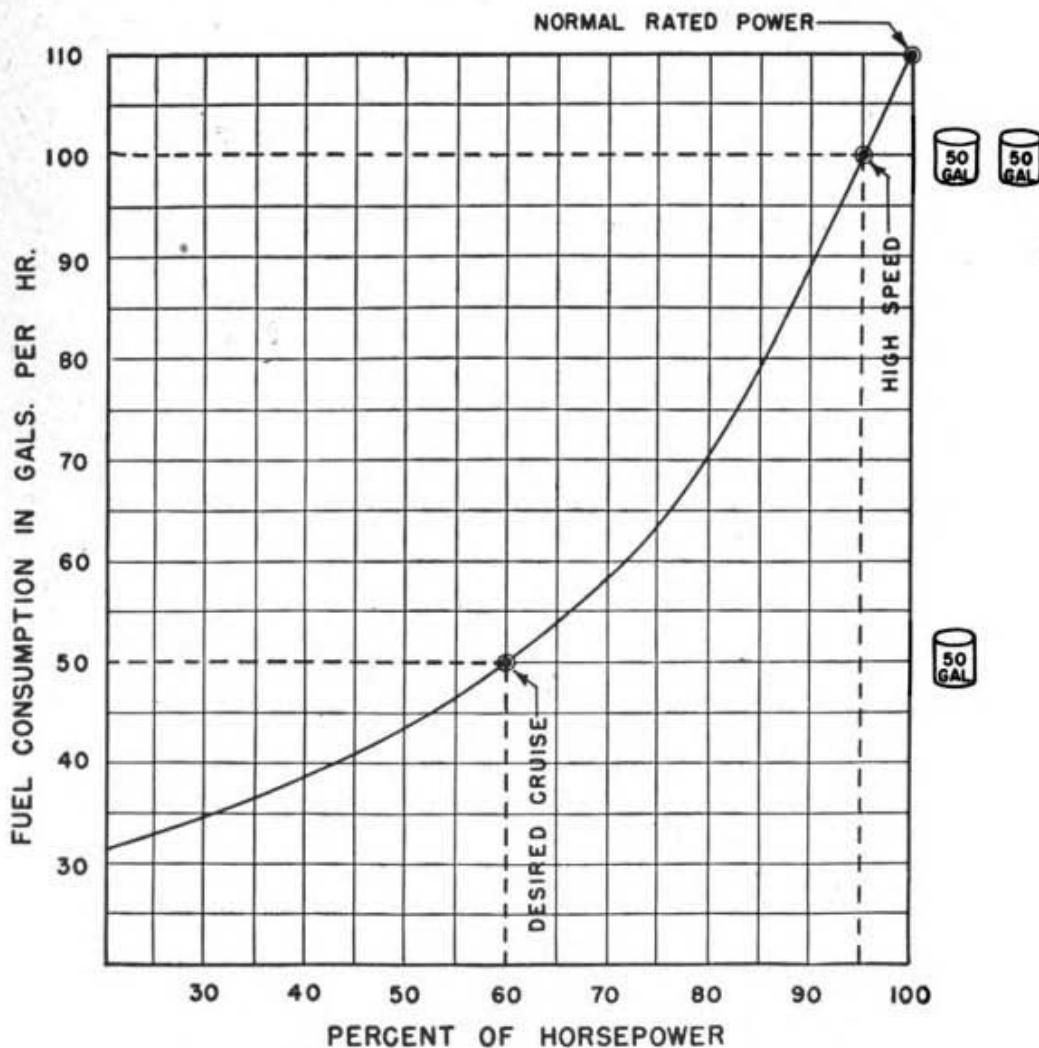

Figure 12. Fuel consumption-horsepower curve.
(3) SUPERCHARGERS. The supercharger operates as a centrifugal fan which forces additional air, together with fuel, into the induction system. The forced induction may be used to increase the power of an engine at low altitudes or it may be used by the engine at high altitudes to make up for the deficiency in pressure due to the lower density of air. It was previously stated that the fuel consumption varies directly with the horsepower delivered. The curve in figure 12 illustrates the quantity of fuel consumed at full power compared to the amount consumed at half power. Assuming a full-rich mixture and sea-level operation, the graph indicates that at high speed, level flight, the engine is delivering 95 percent of its rated power and consuming 100 gallons of fuel per hour.